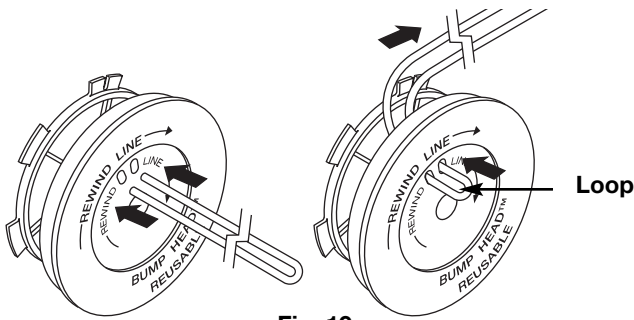

Fig. 19
- Take approximately 20 feet (6 m) of new trimming line, loop it into two equal lengths. Insert each end of the line through one of the two holes in the inner reel (Fig. 19). Pull the line through the inner reel so that the loop is as small as possible.